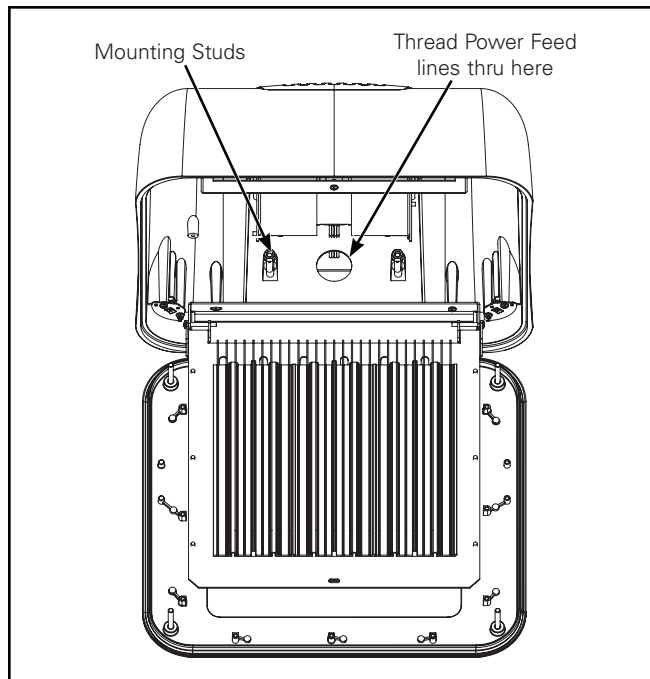

Figure 10.
7. Thread the incoming power leads through the large center hole in the rear of the fixture while lining up the bolts (or threaded studs) with the keyhole slots in the rear. (Figure 10.)